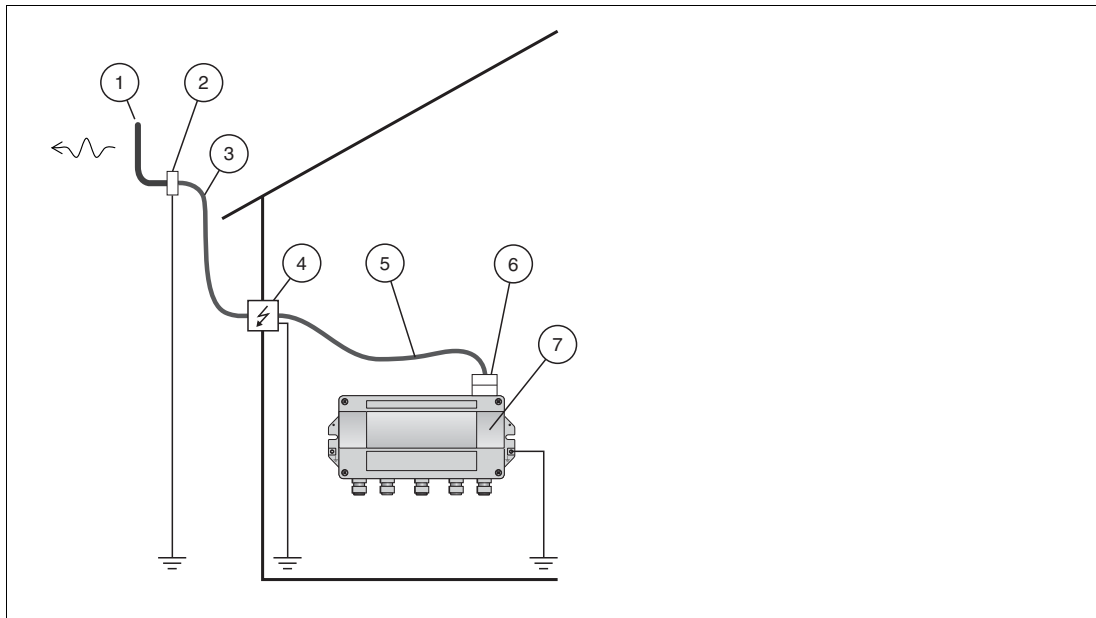

Figure 3.6 Installation diagram
2. Install the components according to the installation diagram. → see Figure 3.6 on page 23